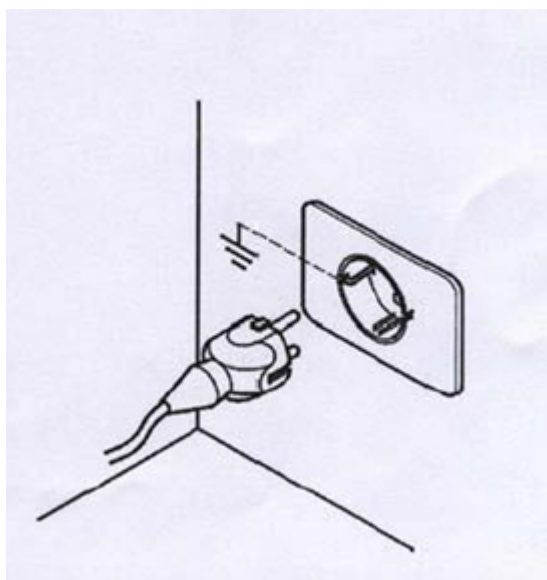

Figure 9
- Connect furnace into ground power outlet (figure 9).